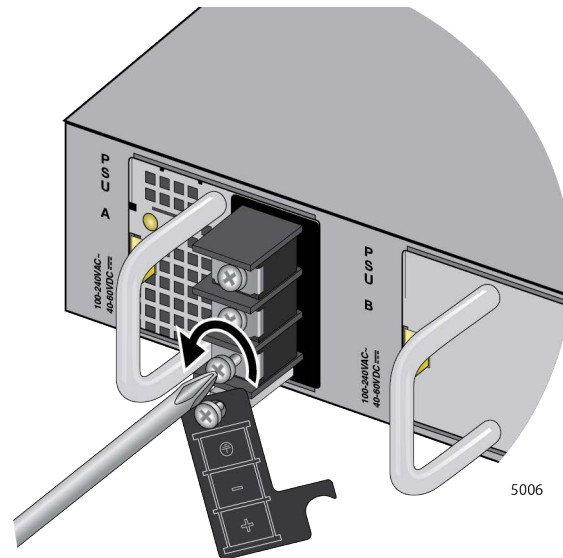

Figure 66. Loosening the Ground Screw
4. Loosen the ground screw with a Phillips-head screwdriver. Refer to Figure 66.